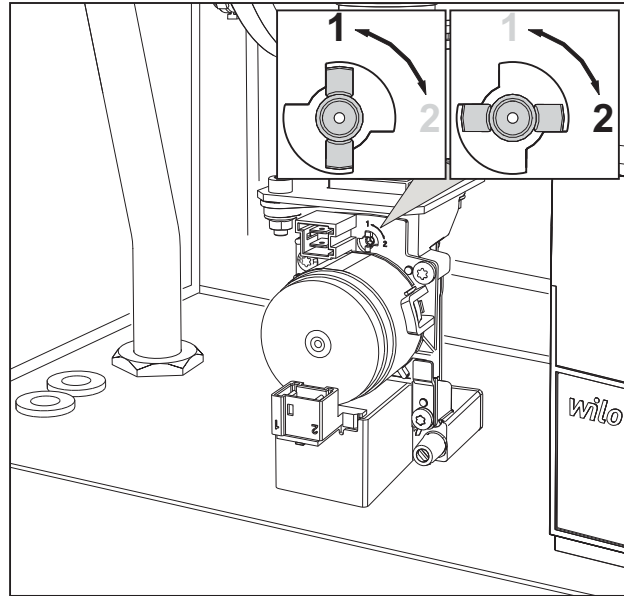

fig. 28
3. Turn the Throttle (fig. 28) according to the position indicated in table 6.